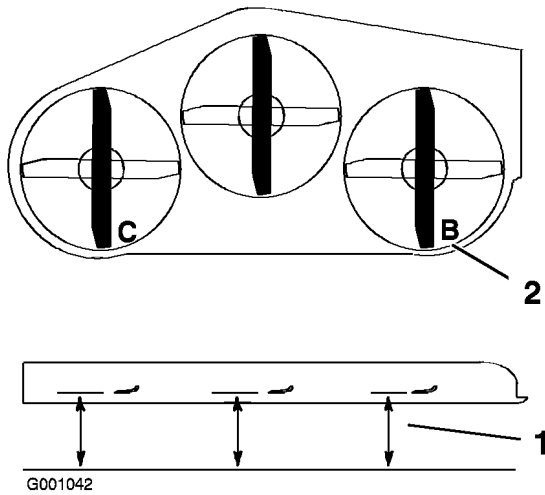

Figure 60
- Position the right blade front-to-rear (Figure 60).
- Measure the right blade at the **B** location, from a level surface to the cutting edge of the blade tip (Figure 60).
- Position the left blade front-to-rear (Figure 60).
- Measure the left blade at the **C** location (Figure 60), from a level surface to the cutting edge of the blade tip .